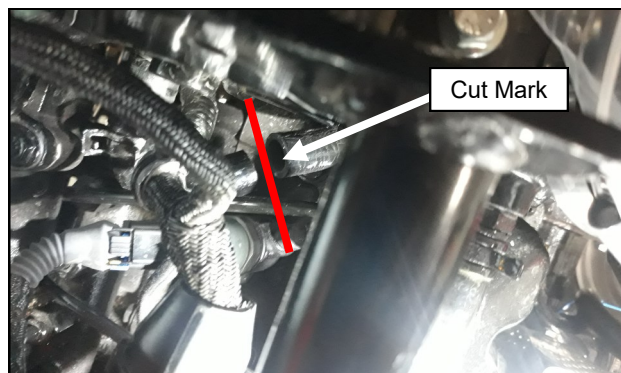

Figure 18.9 (Mark By-Pass Hose)
- 18.9** See fig. 18.9. Locate the 5/8" by-pass hose that runs from the top of the water pump to the EGR system. Mark the top of the hose in the center of the long straight section where a T-fitting will be installed. Remove spring clamps from both ends of hose and remove hose from vehicle.